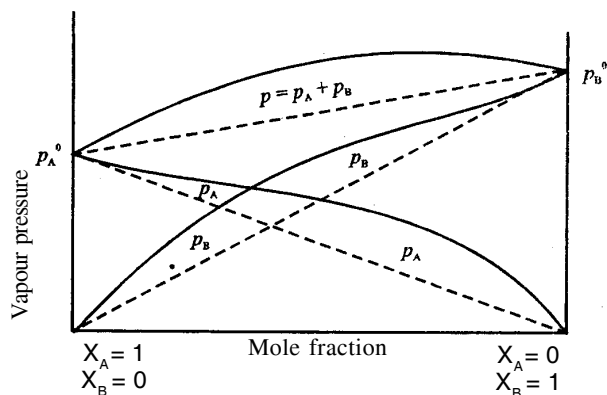

Fig. 9.3 : Positive deviation for a liquid pair
i) Positive deviation : Positive deviations are shown by liquid pairs for which the A-B molecular interactions are weaker than the A-A and or B-B molecular interactions. The total vapour pressure for such solutions is greater than predicted by Raoult's law. The total vapour pressure for such a solution will be maximum for a particular intermediate composition (Fig. 9.3).